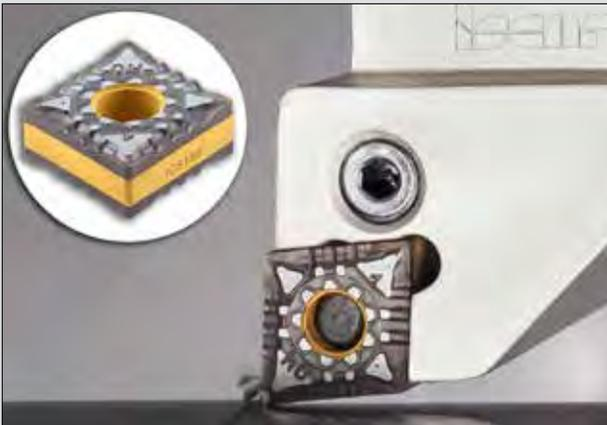

Fig.2. Accurate and smooth machining
*The remarkable progress in press technology enables the production of complex shaped inserts that are characterized by variable corner heights. (fig. 1) This capability enables optimal cutting geometries to be achieved, guaranteeing not only smooth and stable machining but also the increased accuracy of a machined surface. (fig.2)*